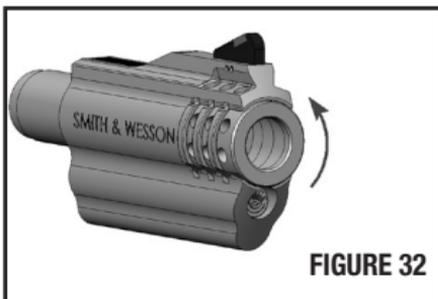

FIGURE 32
2. Rotate the compensator (muzzle brake) with your fingers (or hex wrench if necessary) either left or right for 1/4 turn (FIGURES 32 and 33).